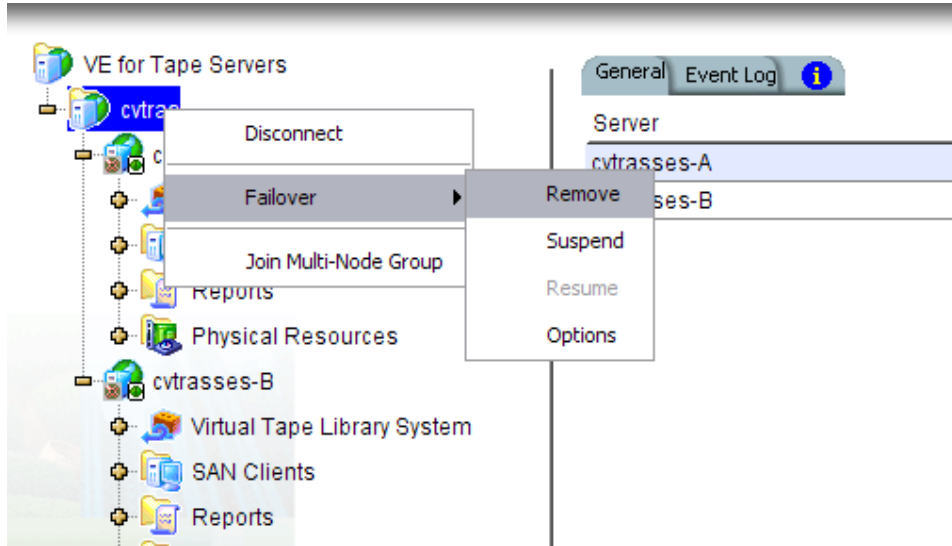

Figure 14. Selecting the failover group to remove failover
1. Right-click the failover group name icon and click **Failover** → **Remove**. See Figure 14.